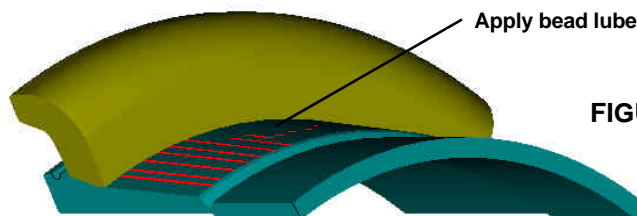

FIGURE 3
- Entire 5 degree area of the rim or wheel back section where the tire bead will contact during the seating procedure. (See Figure 3).